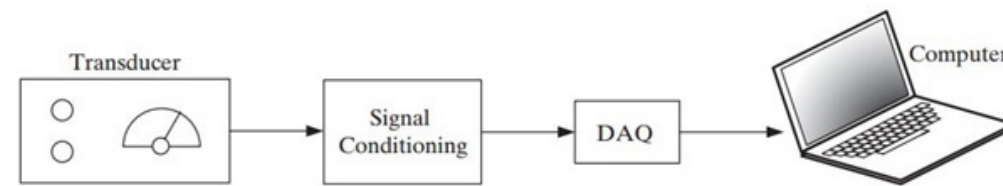

Figure 1: Block diagram of a general-purpose DAQ system
- ▶ The basic elements of DAQ are shown in Fig 1.